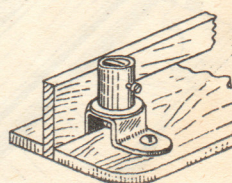

Fig. 4—The bulb fitting.
tiny holes through for the fittings as indicated by the dotted lines. Remove the paper remains from this and the framing piece, the tenons (A) being glued into the relative mortises as seen at Fig. 4.